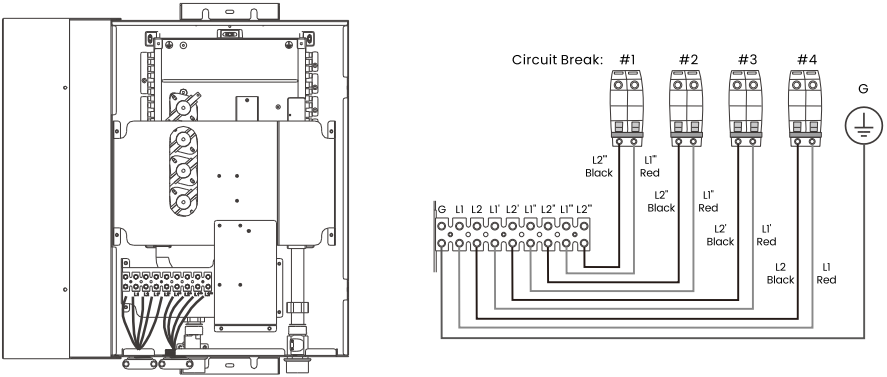

Fig 7
**Step 5:** Route the power cable through the power cable clamp inside the water heater and connect it to the terminal block. Be sure to follow the guiding marks below the terminal block (Fig 7).